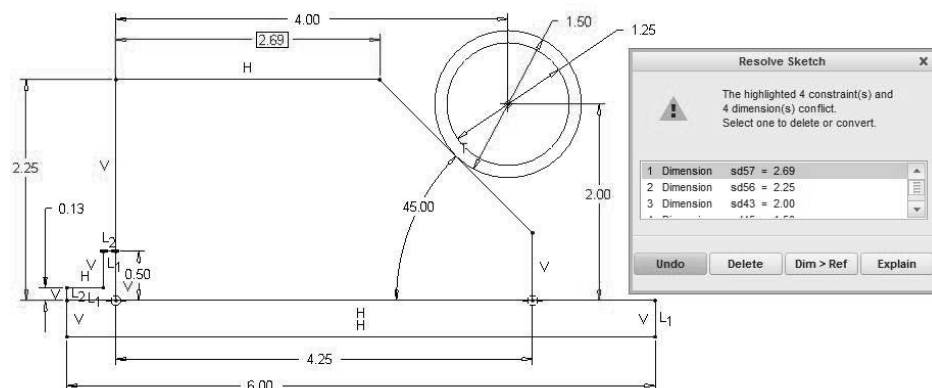

Figure 3-56 Resolve Sketch
Step 16: *Select* the horizontal line at the top of the jig with the LMB. Move upward a bit, then press the MMB to locate the dimension. Note that a “Resolve Sketch” window appears. See Figure 3-56. This appears because the sketch as defined is completely defined and we are trying to add another dimension. One of 7 constraints and 6 dimensions must be modified. A reference dimension is a dimension shown on a sketch that is not necessary to define the sketch. When the window appears, be sure the new dimension is highlighted, then *pick* the **Dim>Ref** button. *Pick* **OK**.